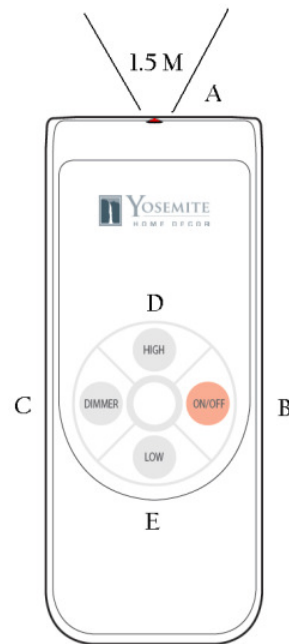

Figure 11
4. At a distance of 4 to 6 feet (1.5 ft to 2 ft.), point the remote control directly towards the sensor. See **Figure 9 & Figure 11**